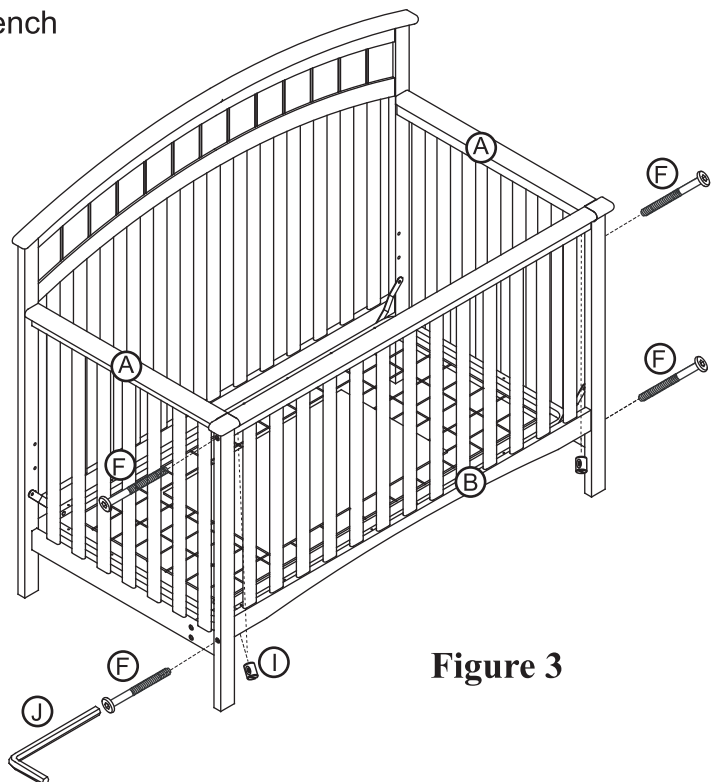

Figure 3
Attach the Front Fixed Side (B) to the left & right Crib Ends (A) using the 3-3/8" Allen head bolts (F) & barrel nuts (I) & Allen wrench (J). See Figure 3.